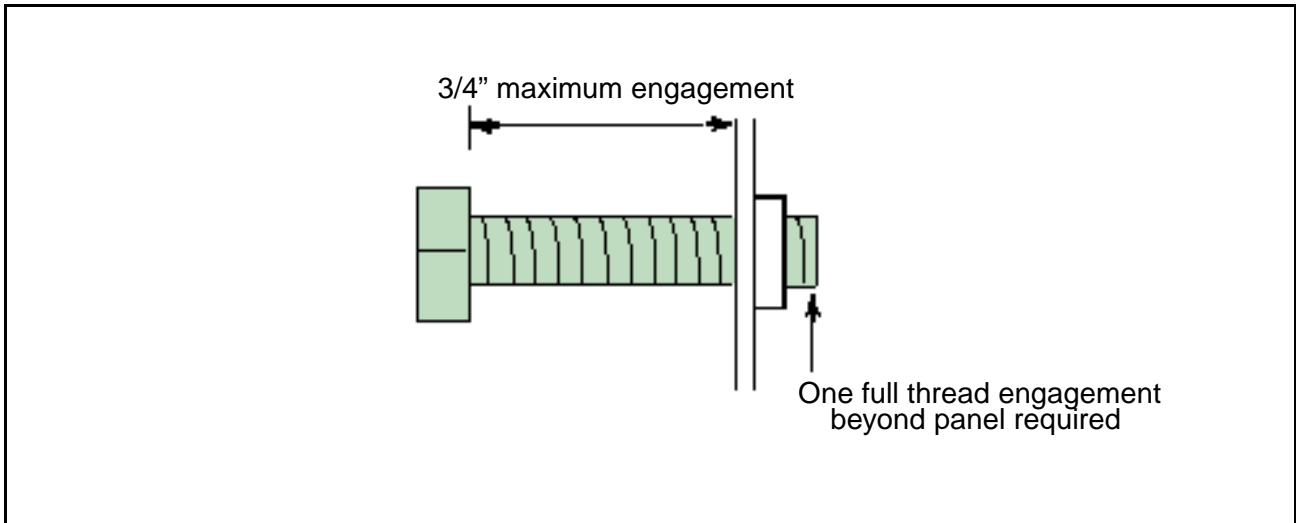

Figure 1 – Mounting Bolt Engagement
Step 2. Insert, but **do not** fully tighten the bolt(s) in the top hole(s) of the panel. Bolts must be fully threaded into the panel before hanging the drive as shown in figure 1.